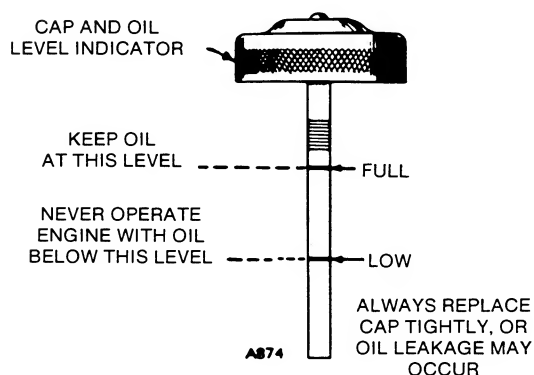

FIGURE 1. CRANKCASE OIL FILL
4. Check crankcase oil level with the engine off. If oil level is at or below "add" mark on dipstick (Figure 1), add sufficient oil of the proper viscosity as specified in the *ENGINE SET-UP* section to bring oil level to the full mark on the dipstick. Do not operate engine with oil level below the "add" mark.